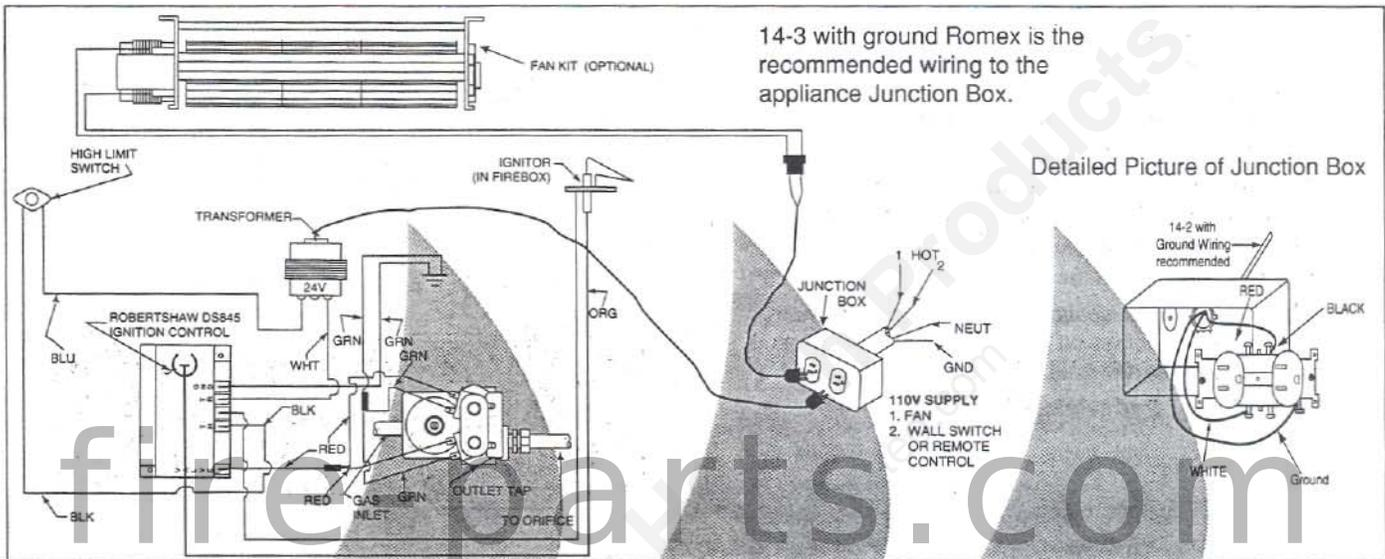

Figure 22 - Electronic Ignition Wiring Diagram
1. Appliance Requirements. This appliance requires a 110VAC supply from a wall switch to the appliance junction box for operation. A wiring diagram is shown in *Figure 22*.